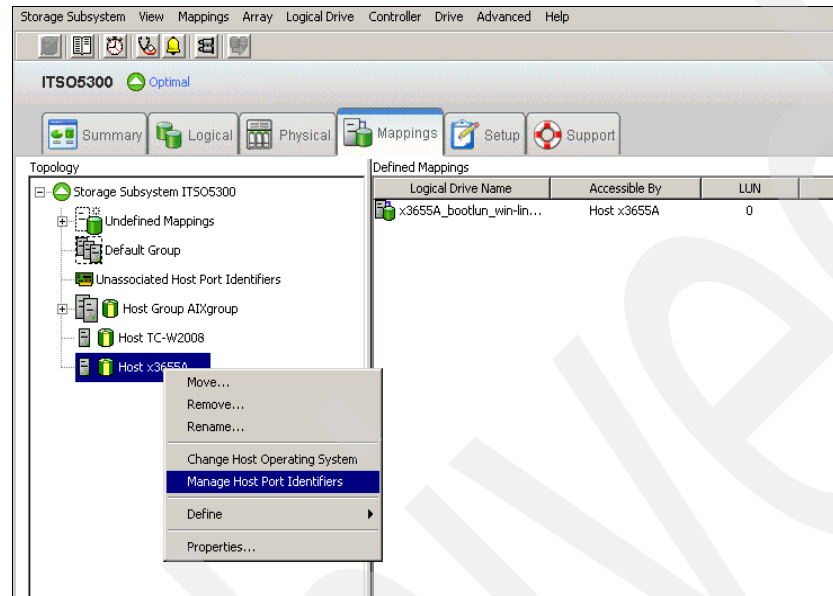

Figure 5-36 Storage Manager - Manage Host Port Identifiers
1. In Storage Manager mapping view, select the host and define the second host port of the server to be part of the storage partition as seen in Figure 5-36.